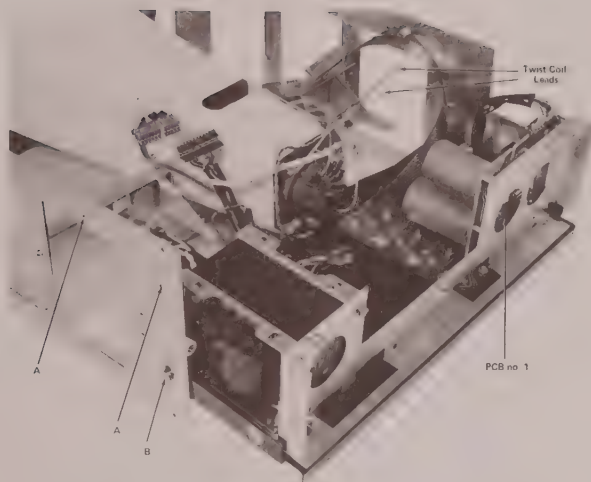

Fig. 8.3a CRT Removal
2. Referring to Fig. 8.3a, remove screws from both sides of the instrument at locations marked 'A'. Loosen those marked 'B'.
5. Hinge back the power unit assembly as shown in Fig. 8.3a. **Caution - ensure that the film wire assemblies are not in a position where they may be damaged.**